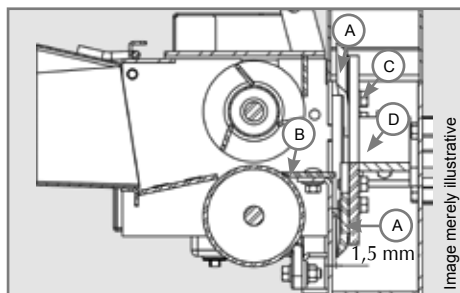

Figure 14
To sharpen them, remove the screws (C) which attach the cutting blade (A) to the disk (D) as indicated in Figure 14, and remove the cutting blade. Use an appropriate tool or a manual file, sharpen one cutting blade at a time and mount it in the same place it was removed from so as not to affect the disk balance.
- ✓ The distance between the blade (A) and the blade (B) holder must be approximately 1.5 mm as shown in figure 14.